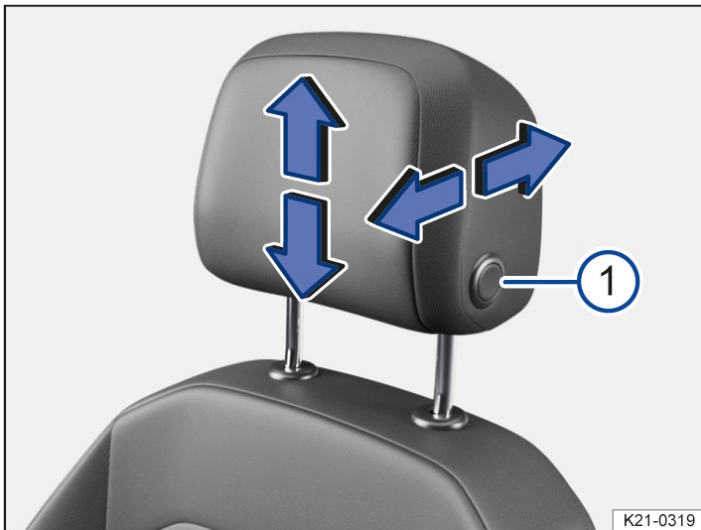

Fig. 2 General example: removing the front head restraint with forward/backward adjustment.
3. On both sides, insert a flat object, e.g. a plastic card, between the backrest cover and the head restraint guide pin cap and, at the same time, unlock the support rods by pressing slightly → *fig. 2* ¹.
2. Push the head restraint downward while pressing the → *fig. 2* ¹ button fully.